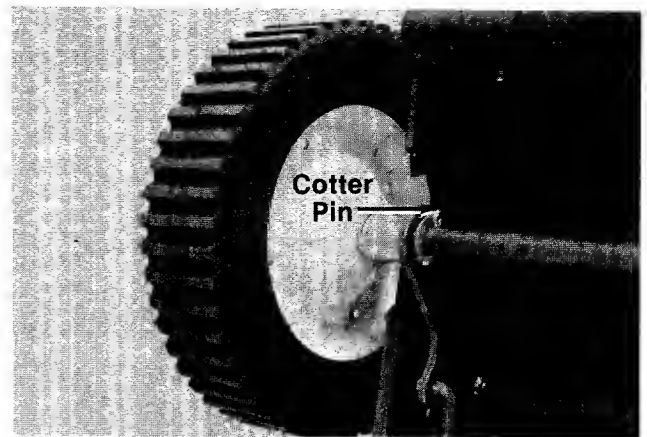
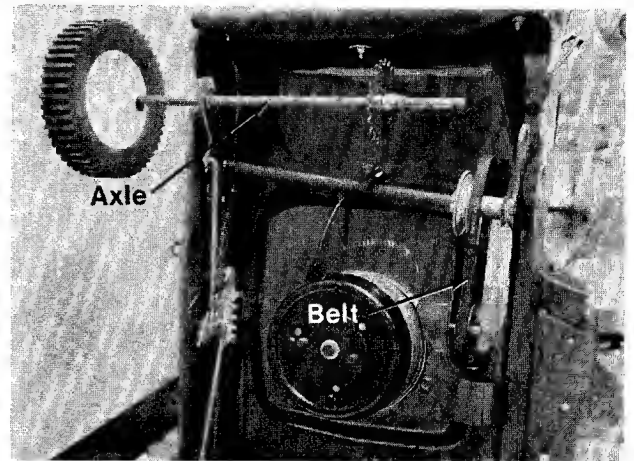

FIGURE 24.
FIGURE 25.
10. Remove the cotter pin next to the bearing by the left wheel. See figure 24. Slide the axle to the left. The belt can be removed. See figure 25.